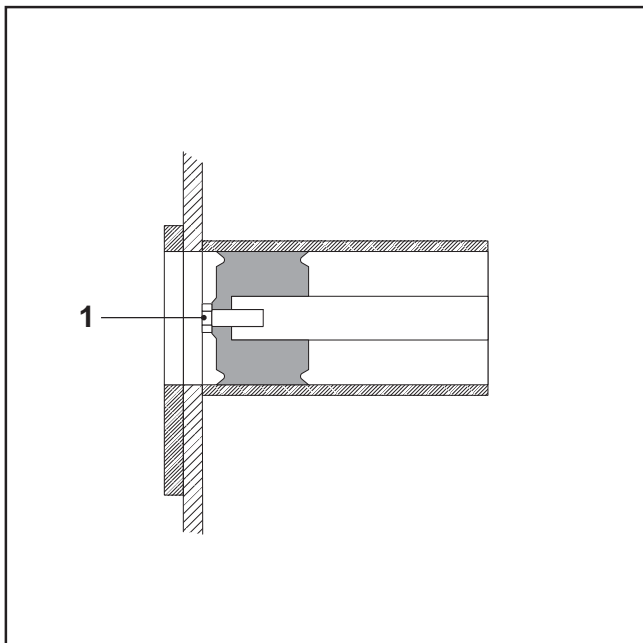

FIG.41
- Remove the screw (FIG.41-REF. 1) on the piston head.